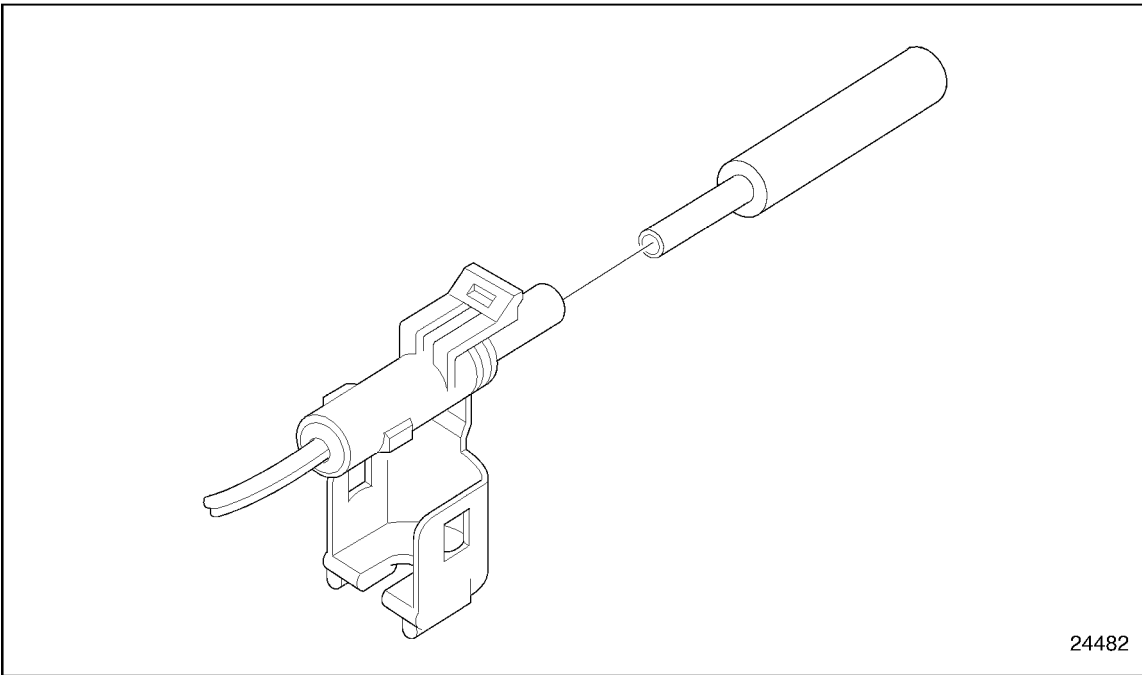

Figure 8-14 **Tool Removal Procedure**
2. Insert the removal tool straight into the front of the connector cavity until it rests on the cavity shoulder. See Figure 8-14.